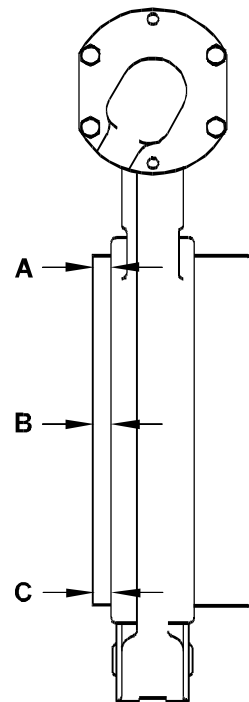

Figure 6 - Brake Alignment
- 2.3.2 Apply and release the air pressure to the brake to open and close the brake shoes. Observe dimensions A, B and C as shown in Figure 6. These dimensions should be identical top to bottom, as well as front to back, with the brake either engaged or released.